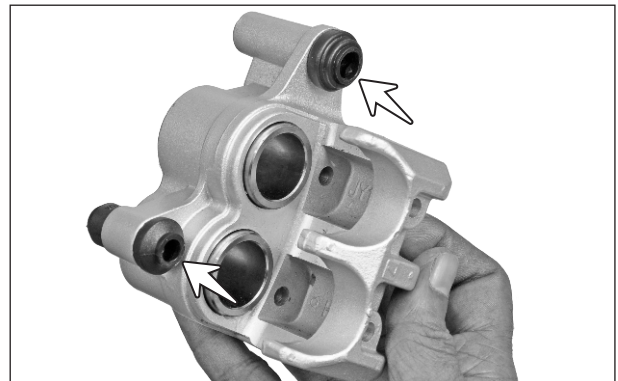

Fig. 6.27
- Carefully pull out the boots from the caliper assembly housing. (Fig. 6.27)